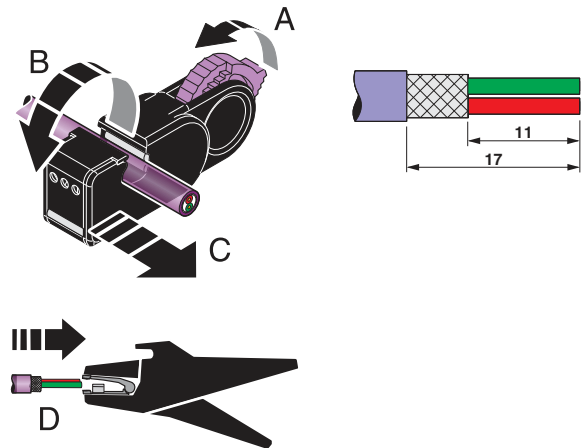

Figure 30 Stripping
- Strip off the conductors (see Figure 30).